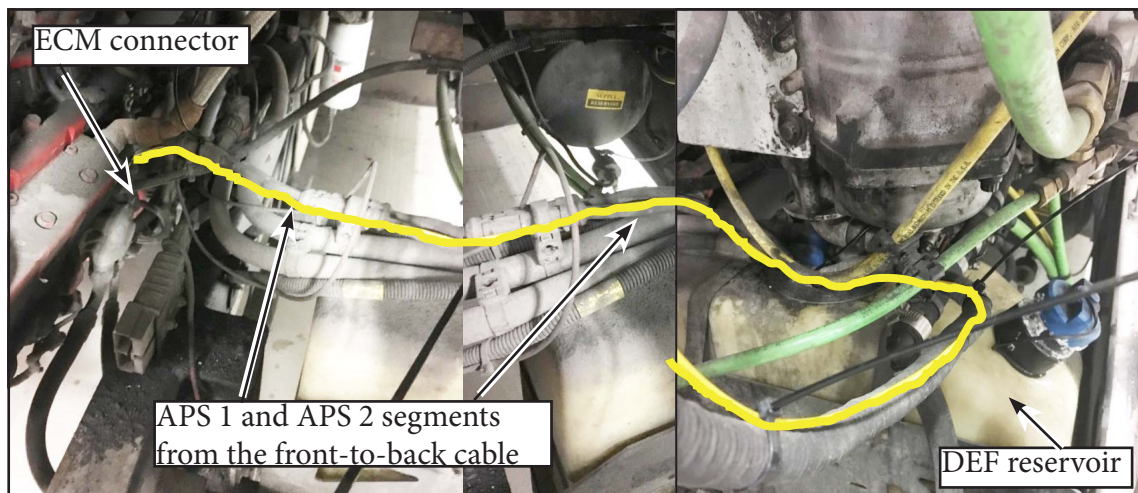

Figure 30 - Front-to-Back Cable Routing to the ECM Connector
2.17. Continue routing and tie-wrapping the front to back cable down over the DEF reservoir towards the ECM connector (see Figure 30).